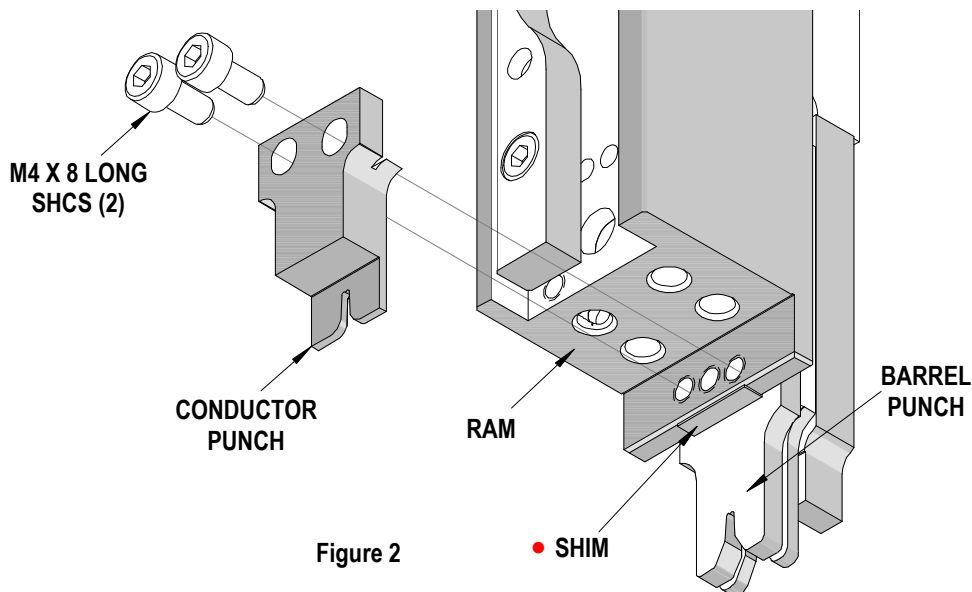

Figure 2
- 2 To achieve the reference “D” dimension listed in the chart above, a (.38mm) .015” thick shim is required. These shims are not supplied with the applicator. The shim should be located between the ram and the conductor punch. See Figure 2.